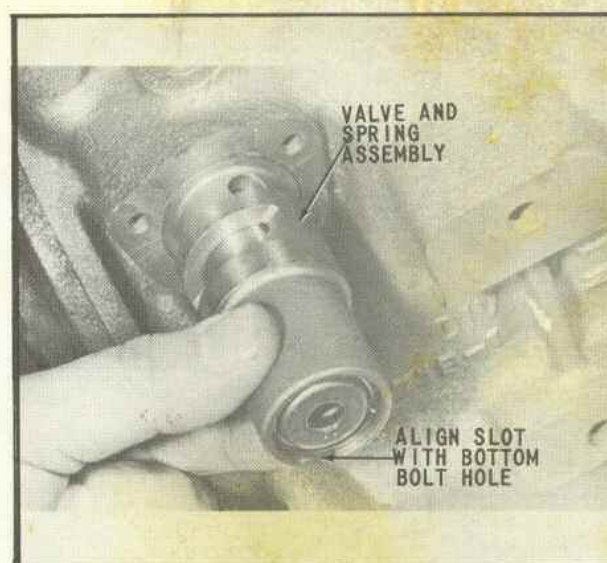

Fig. 73 Installation of Valve and Spring Assembly
73. Place parts assembled in steps 1 through 69 inclusive, on clean flat surface. Into the opening provided high on the right-rear side of the transmission case, place the valve and spring assembly, threaded end entering first, (Fig. 73). This is a hand assembly and is completed when the valve and spring assembly "bottoms" against the shoulder in the case bore.
74. To insure neutral positioning of valve and easier assembly of lever, align .369-.376 width slot in valve with bottom 1/4-20 bolt hole in valve cover face of case as shown in (Fig. 73).